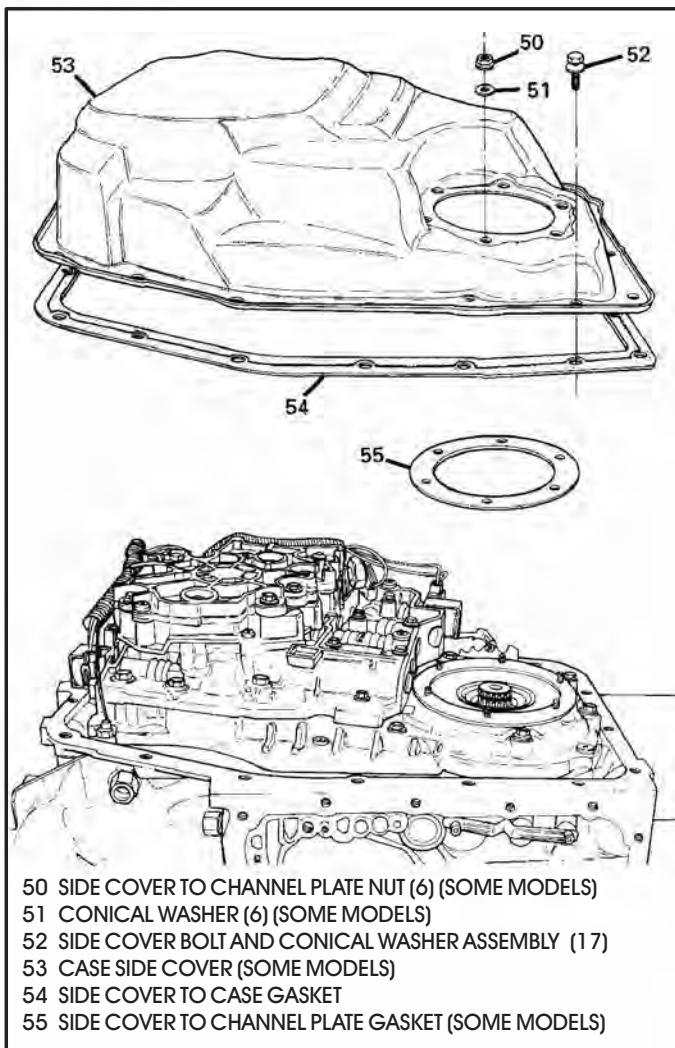
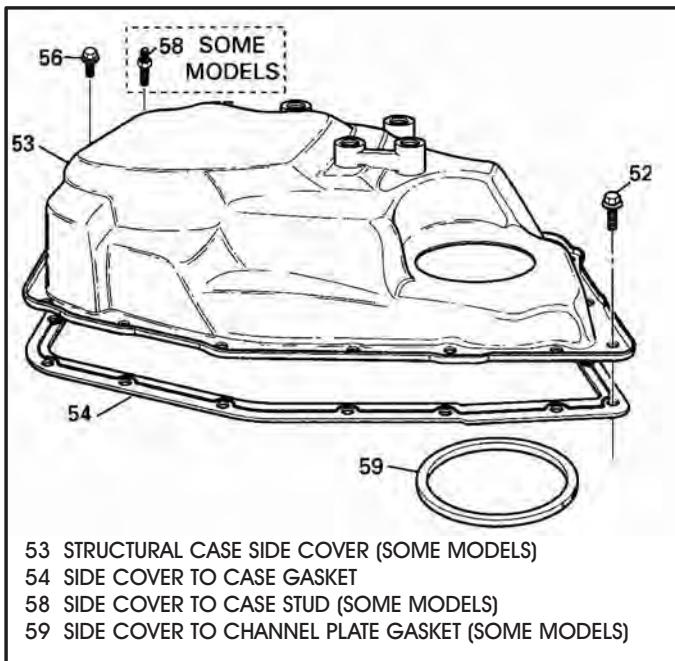

Figure 45
Figure 46
11. Rotate the transaxle so that the side cover is facing up, as shown in Figure 45.
12. Remove the 6 nuts and conical washers from side cover, if equipped (See Figure 45).
13. Remove the 17 side cover to case retaining bolts, as shown in Figure 45.
- Special Note:** Some models are equipped with a stamped steel side cover with retaining nuts and conical washers, as shown in Figure 45. Other models are equipped with structural (cast aluminum) side covers that do not use the retaining nuts and conical washers, as shown in Figure 46.
14. Remove and discard the side cover to case and side cover to channel plate gaskets, as shown in Figures 45 and 46.